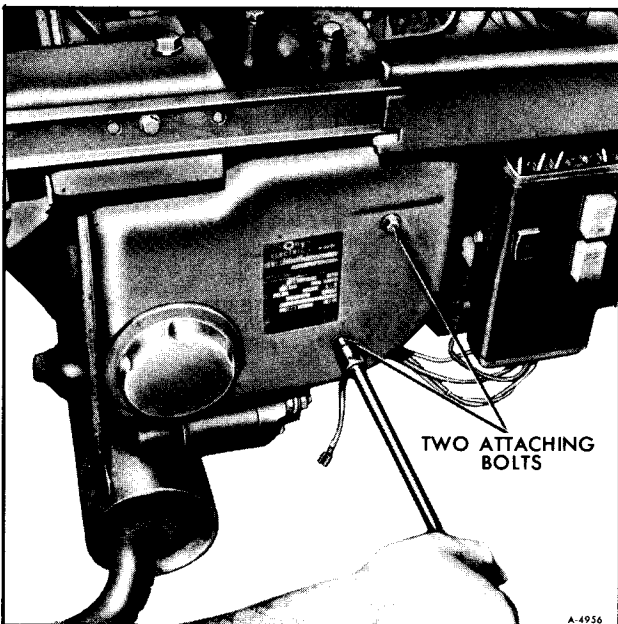

Figure 53—Removing Right Hand Air Shroud
10. Remove the right hand air shroud to expose the starter motor by removing the two attaching bolts (See figure 53).